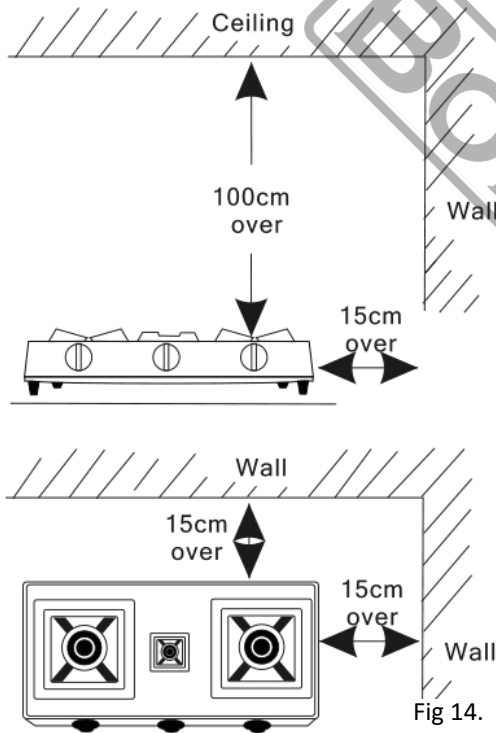

Fig 14.
8. When choosing a place to put the gas cooker, be sure to pick a spot that is firm and level. The gas cooker needs plenty of space and air. Allow at least 15cm of space on the sides and 100cm above the unit. (Fig.14) if the space is less than 15cm from the inflammable walls, be sure to provide a heat insulation board. Also be sure to keep paper, oil, and all other inflammable objects away from the gas cooker.